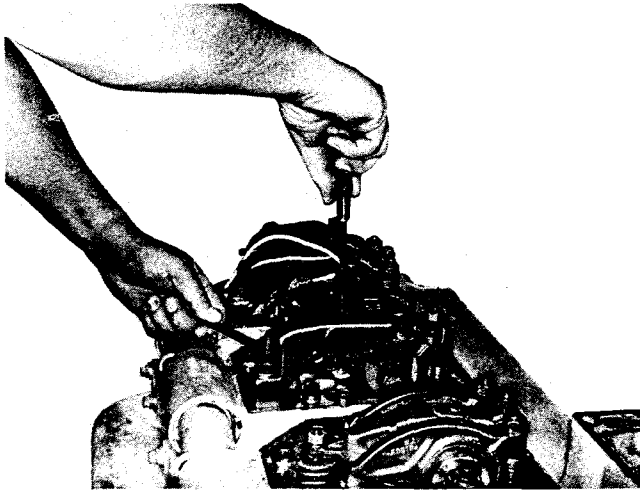

Fig. 2-55, (K114105). Adjusting crosshead to slave piston clearance
9. If Jacobs Brake is used, use 3375012 (0.018 inch [0.46 mm] thick) Feeler Gauge and 3375008 Torque Wrench Adapter, set exhaust valve crosshead to Jacobs Brake slave piston clearance. Fig. 2-55.